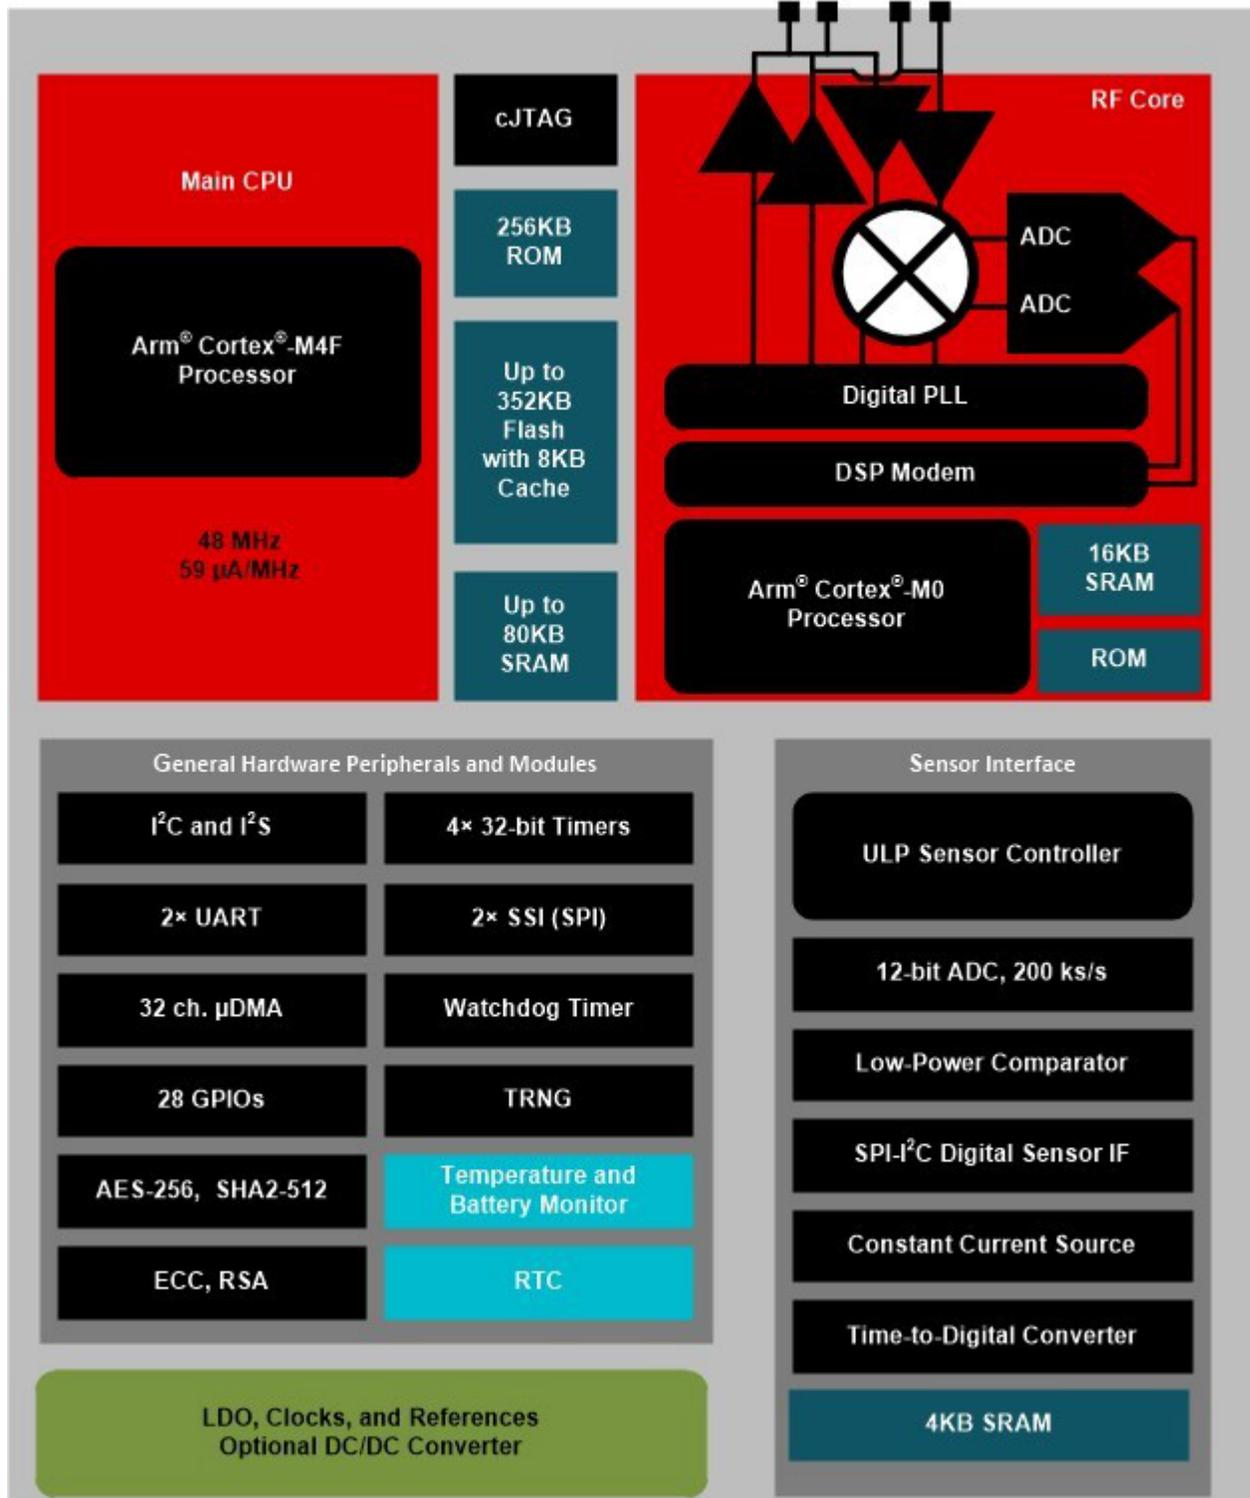

Figure 2. Block Diagram of SimpleLink CC1352R Wireless MCU
- Lower power operation.** The new SimpleLink wireless devices have excellent power performance, with standby current consumption as low as 0.8µA with 80KB of random access memory (RAM) and central processing unit (CPU) retention. However, the key differentiator for low-power operation is the sensor controller engine. The sensor controller is a digital core with 4KB of RAM, which allows the main system to sleep until an event trigger from sensor controller peripherals (12-bit analog-to-digital converter [ADC], comparator, Serial Peripheral Interface [SPI]-I²C, time-to-digital converter) wakes it up. For example, the sensor controller can operate as low as 1µA while completing an ADC sample every second. This enables connected devices to operate at ultra-low power while still monitoring sensor data, which extends the lifetime of products that run on small coin-cell batteries. Figure 2 is the full SimpleLink CC1352R wireless MCU block diagram.